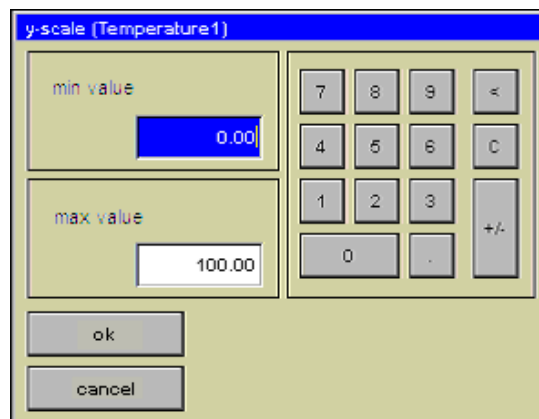

Fig. 31 Value Range, Y-scale
- ➡ When you add an analogue value, the Y-scale window opens (Fig. 31). The Y-scale is not active for binary values.